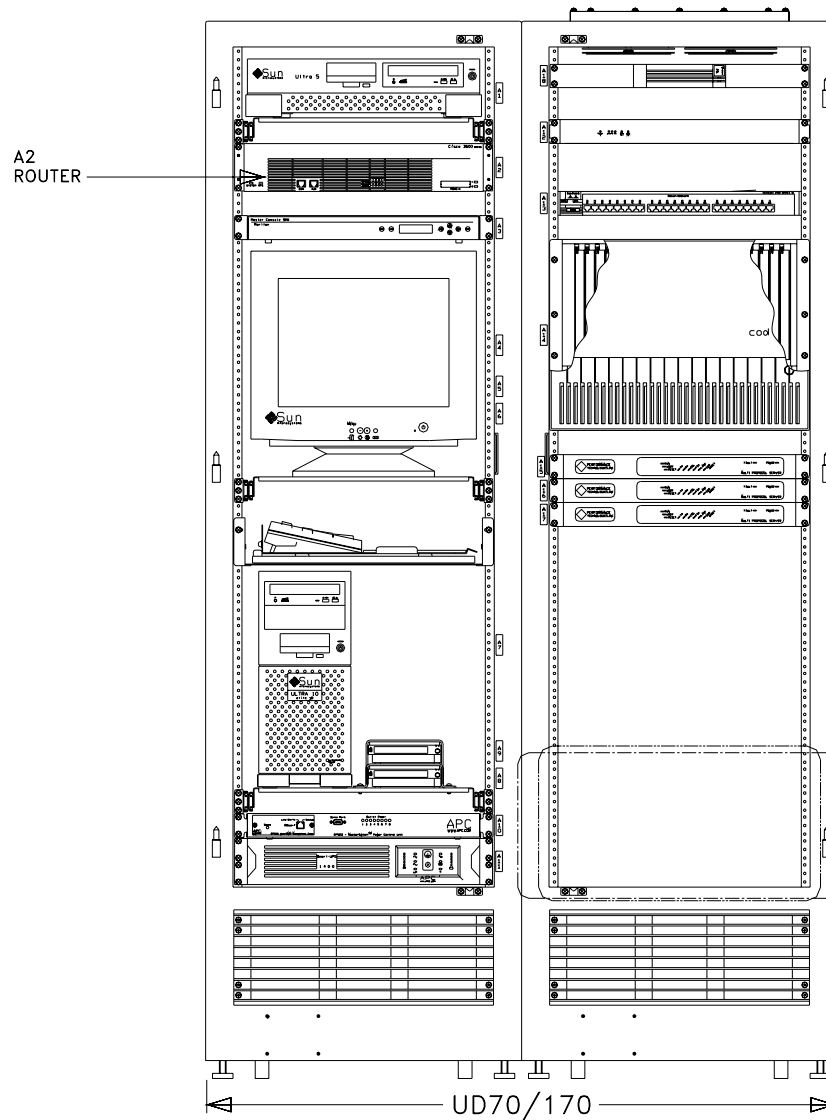
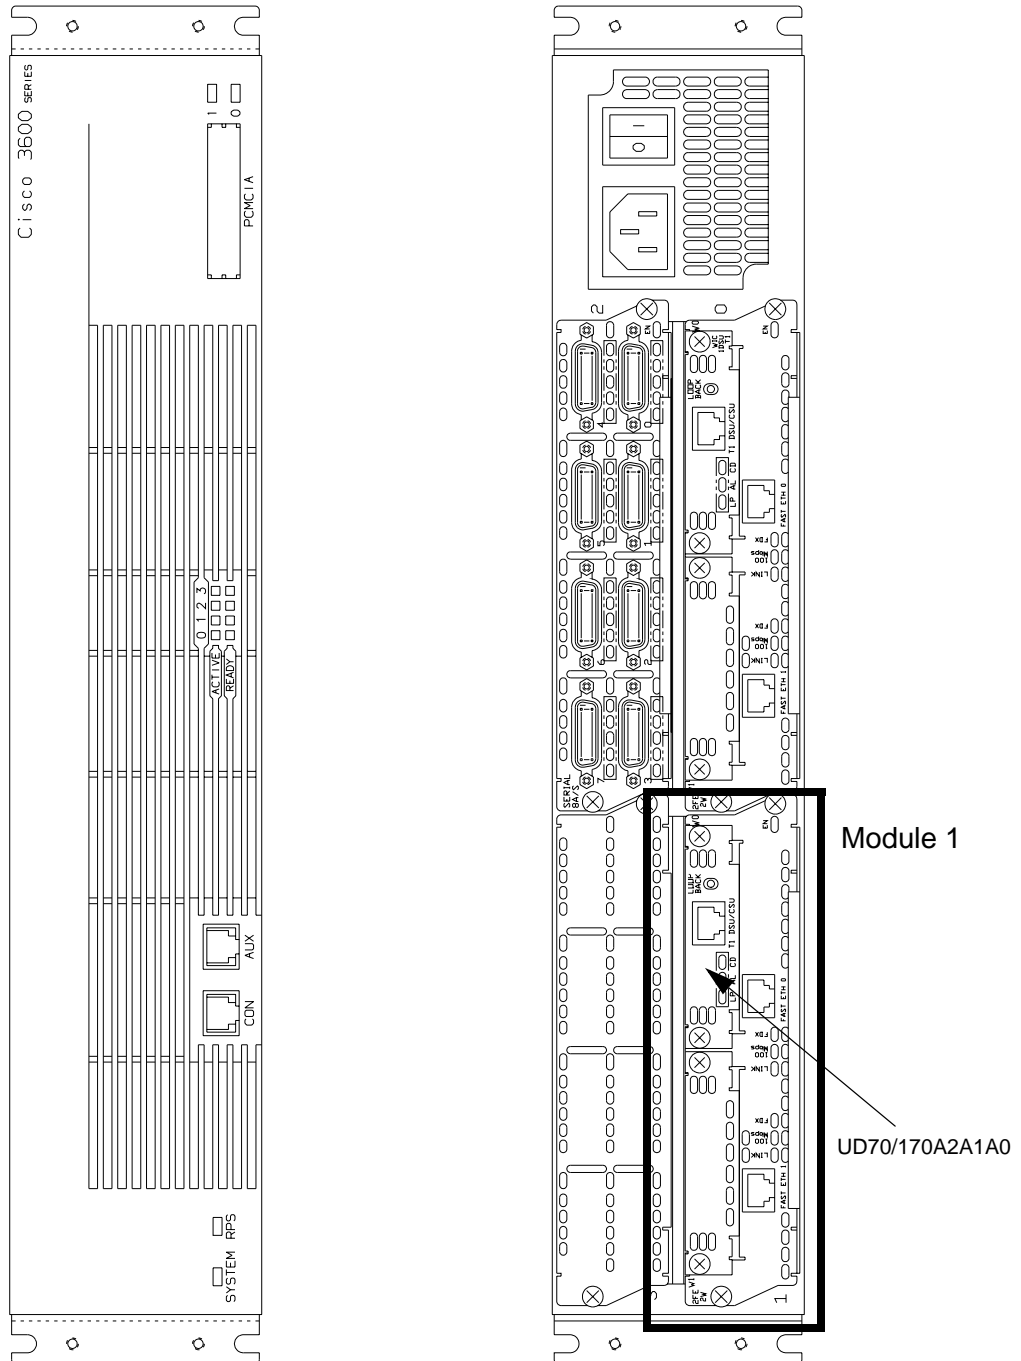

Figure 1. Router Location
Figure 2. Router Module Location
2. Open the RPGPCA cabinet doors and locate the Router UD70A2. (Refer to Figure 1 for router location.)
2. Locate the modules installed in the back of the Router UD70A2. (Refer to Figure 1 for the router location, and Figure 2 for the router module locations.) Module 0 (UD70/170A2A1A0) is the bottom right module. Module 1 (UD70/170A2A1A1) is the bottom left module. The module number is engraved on the router case and may be difficult to see.